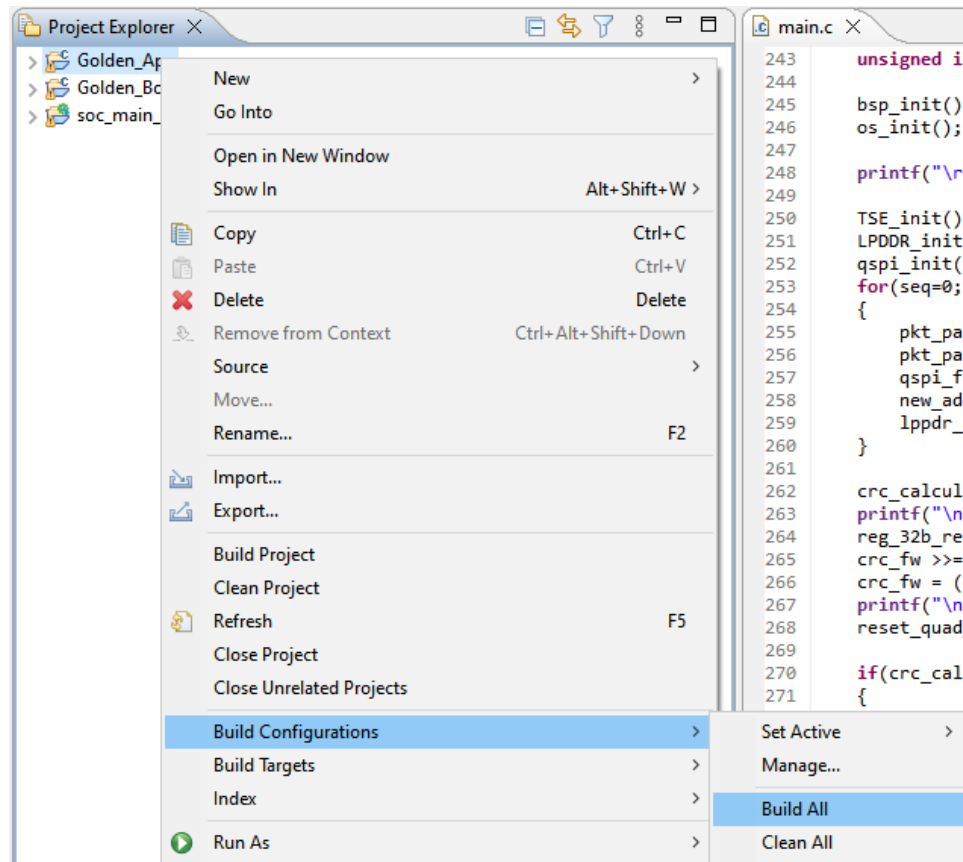

Figure C.37. Build Project
10. After cleaning, right-click on the **Golden_App** and select the option as shown in Figure C.37 to build the project.